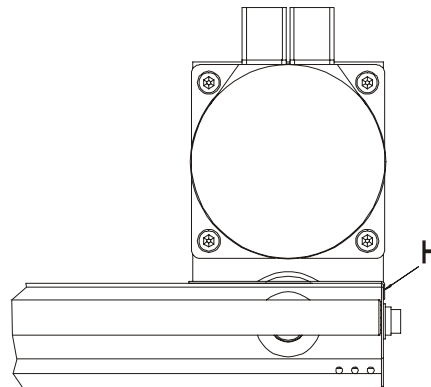

Figure 24: Belt Drive, View from the Motor Side
- Remove the cover plate (H) on the motor side (see Figure 24, H). If necessary, remove the motor (see Section 7.1.3 “Changing the Motor”, page 27).
- Remove the cover plate (H) attached on the motor side (see Figure 24, H)
- Remove the motor and motor flange. (see *Section 7.1.3 "Changing the Motor", page 27* and *Section 7.1.4 "Changing the Toothed Gear Belt, page 29*). Remove the cover plate on the motor side (see *Figure 24, H*).
- Refit the cover plate (see *Figure 24, H*).
- Remove the angle plate attached to the motor side (see Figure 24, H)
- Attach the angle plate (see Figure 24, H)